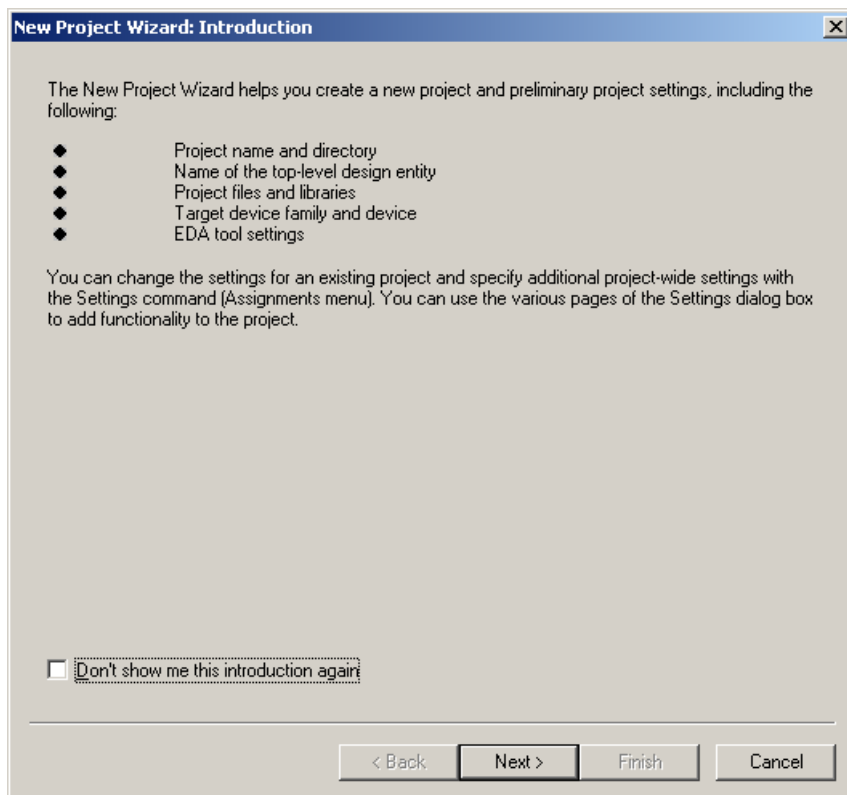
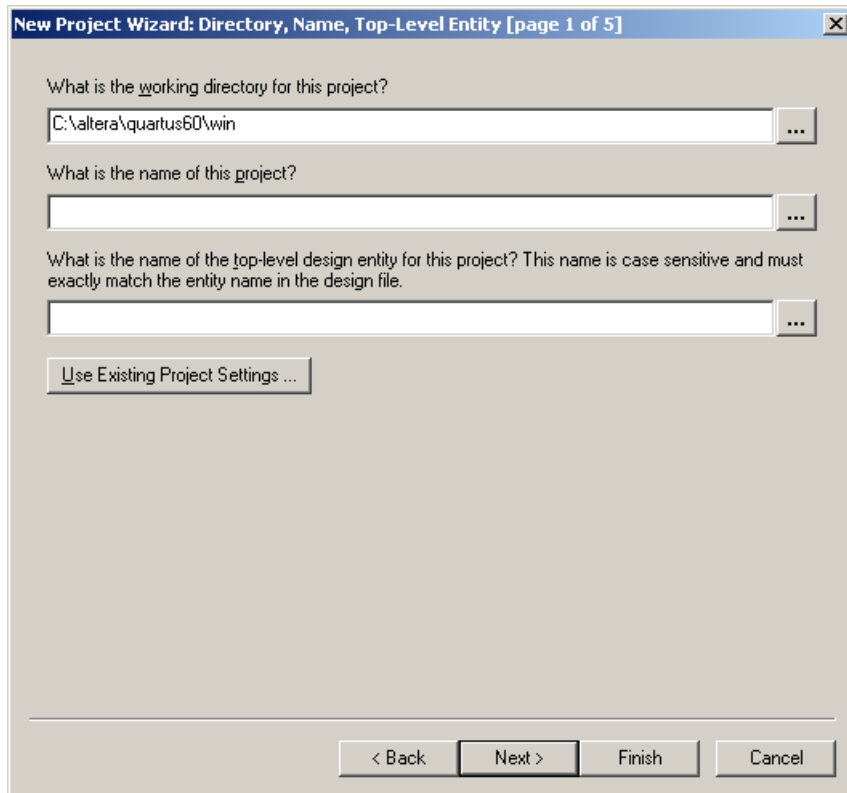

Figure 5 – Tasks performed by the wizard
Figure 6 – Creation of a new project
- (a) Select **File → New Project Wizard** to reach the window in Figure 5, which indicates the capability of this wizard. Click **Next** to get the window shown in Figure 6.
- B) Set the working directory to be **U:\ECE102\Lab0**; of course, you can use some other directory name of your choice if you prefer. The project must have a name, which is usually the same as the **top-level design entity** that will be included in the project. Choose **binary_counter** as the name for both the **project** and the **top-level entity**, in creation window shown in Figure 6. Then click the **Next** button.